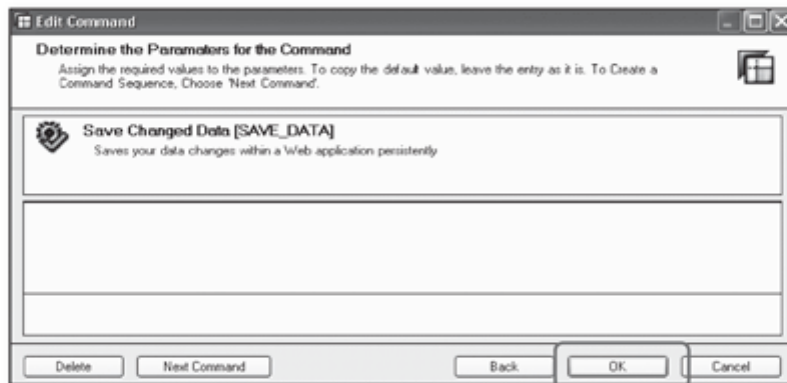

Figure 12.96 Parameter Screen for Save Command
10. The parameters for the selected command can be defined on the subsequent screen (Figure 12.96). Because there are no parameters to define for the Save command, click OK.